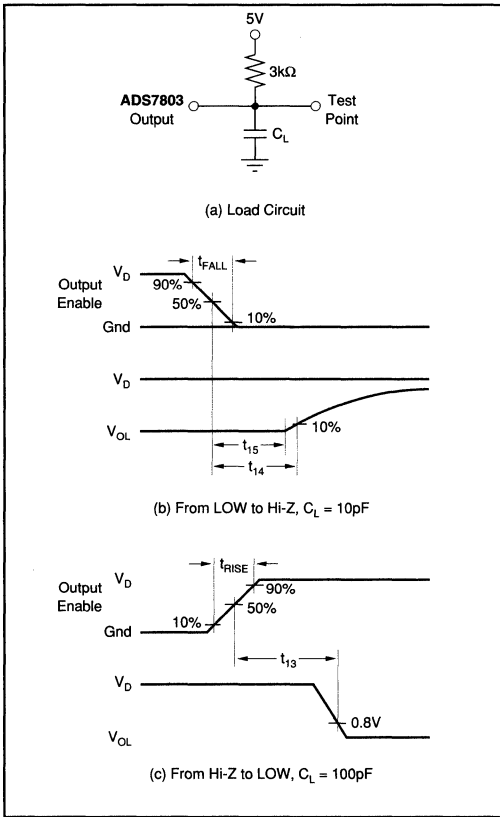

FIGURE 8. Measuring Active LOW to/from Hi-Z State.
NOTES: (1) All input control signals are specified with $t_{\text{RISE}} = t_{\text{FALL}} = 20\text{ns}$ (10% to 90% of 5V) and timed from a voltage level of 1.6V. Data is timed from V_{IH} , V_{IL} , V_{OH} or V_{OL} . (2) The internal RD pulse is performed by a NOR wiring of $\overline{\text{CS}}$ and $\overline{\text{RD}}$. The internal WR pulse is performed by a NOR wiring of $\overline{\text{CS}}$ and $\overline{\text{WR}}$. (3) Figures 8 and 9 show the measurement circuits and pulse diagrams for testing transitions to and from Hi-Z states.